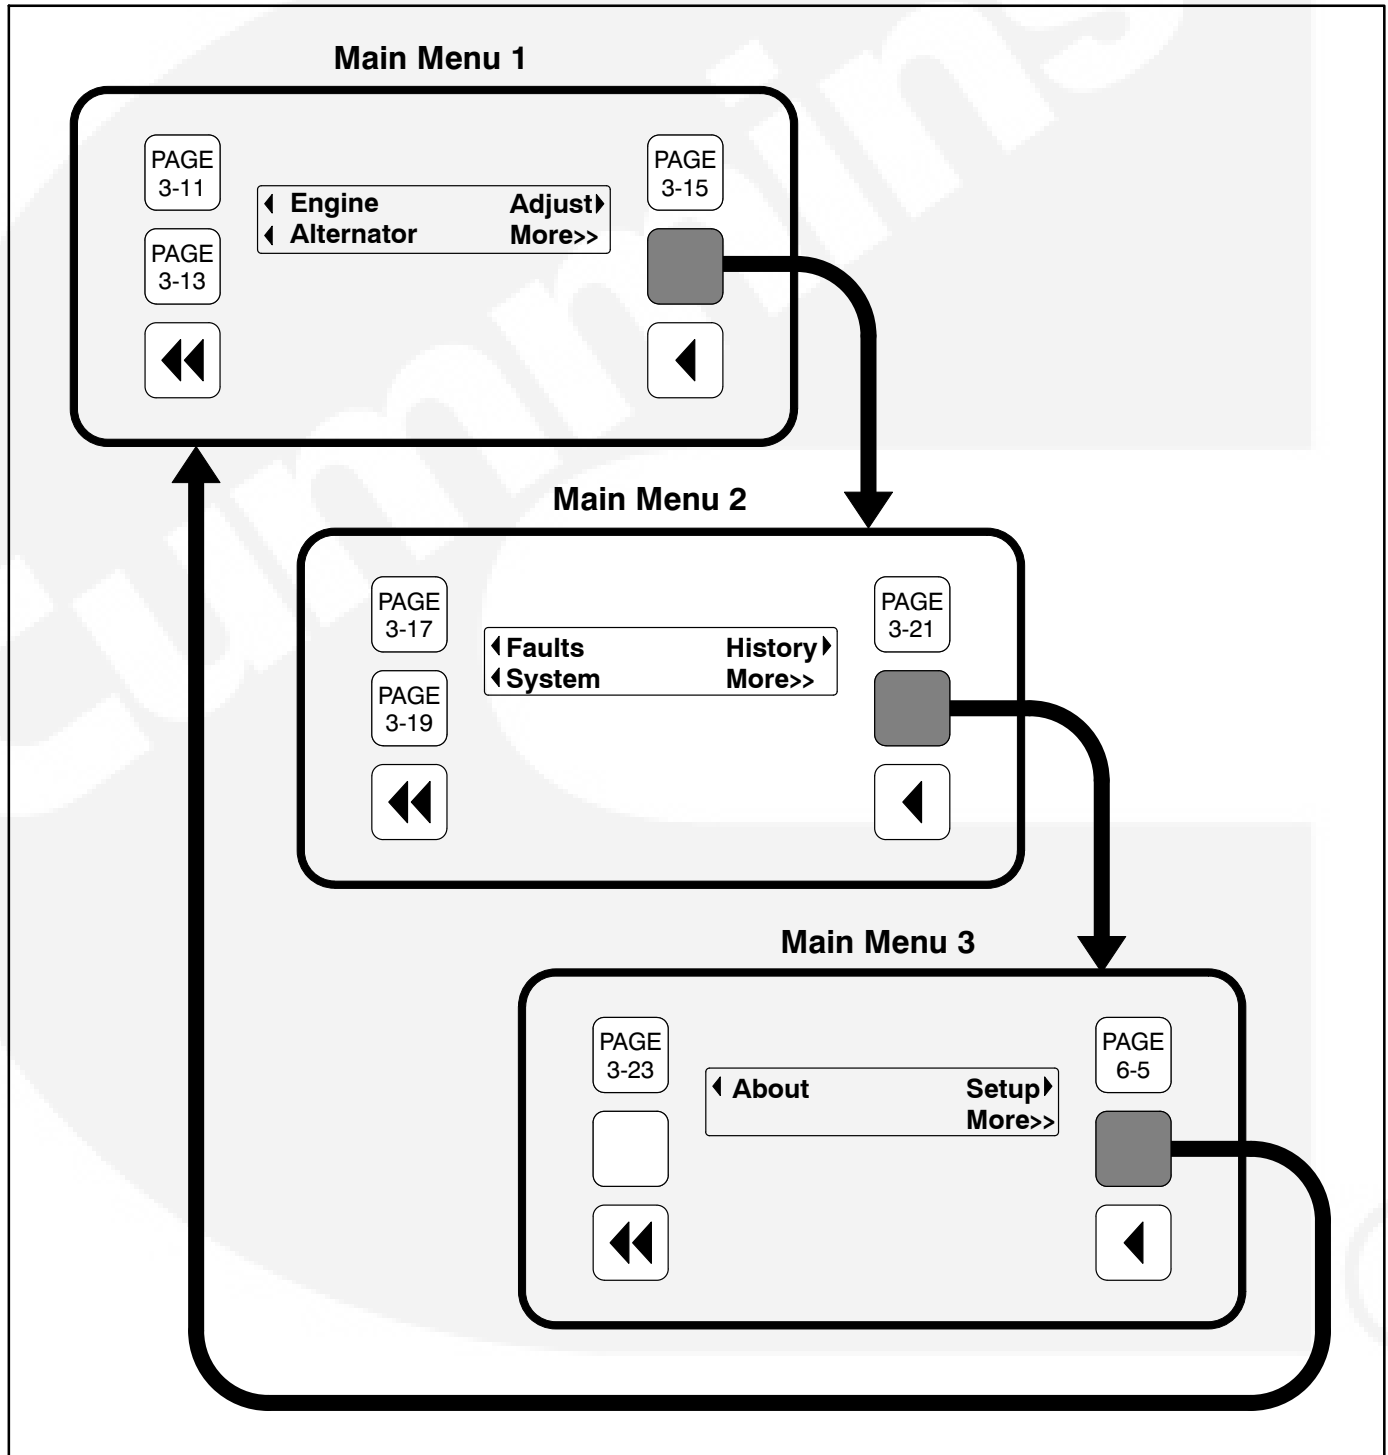
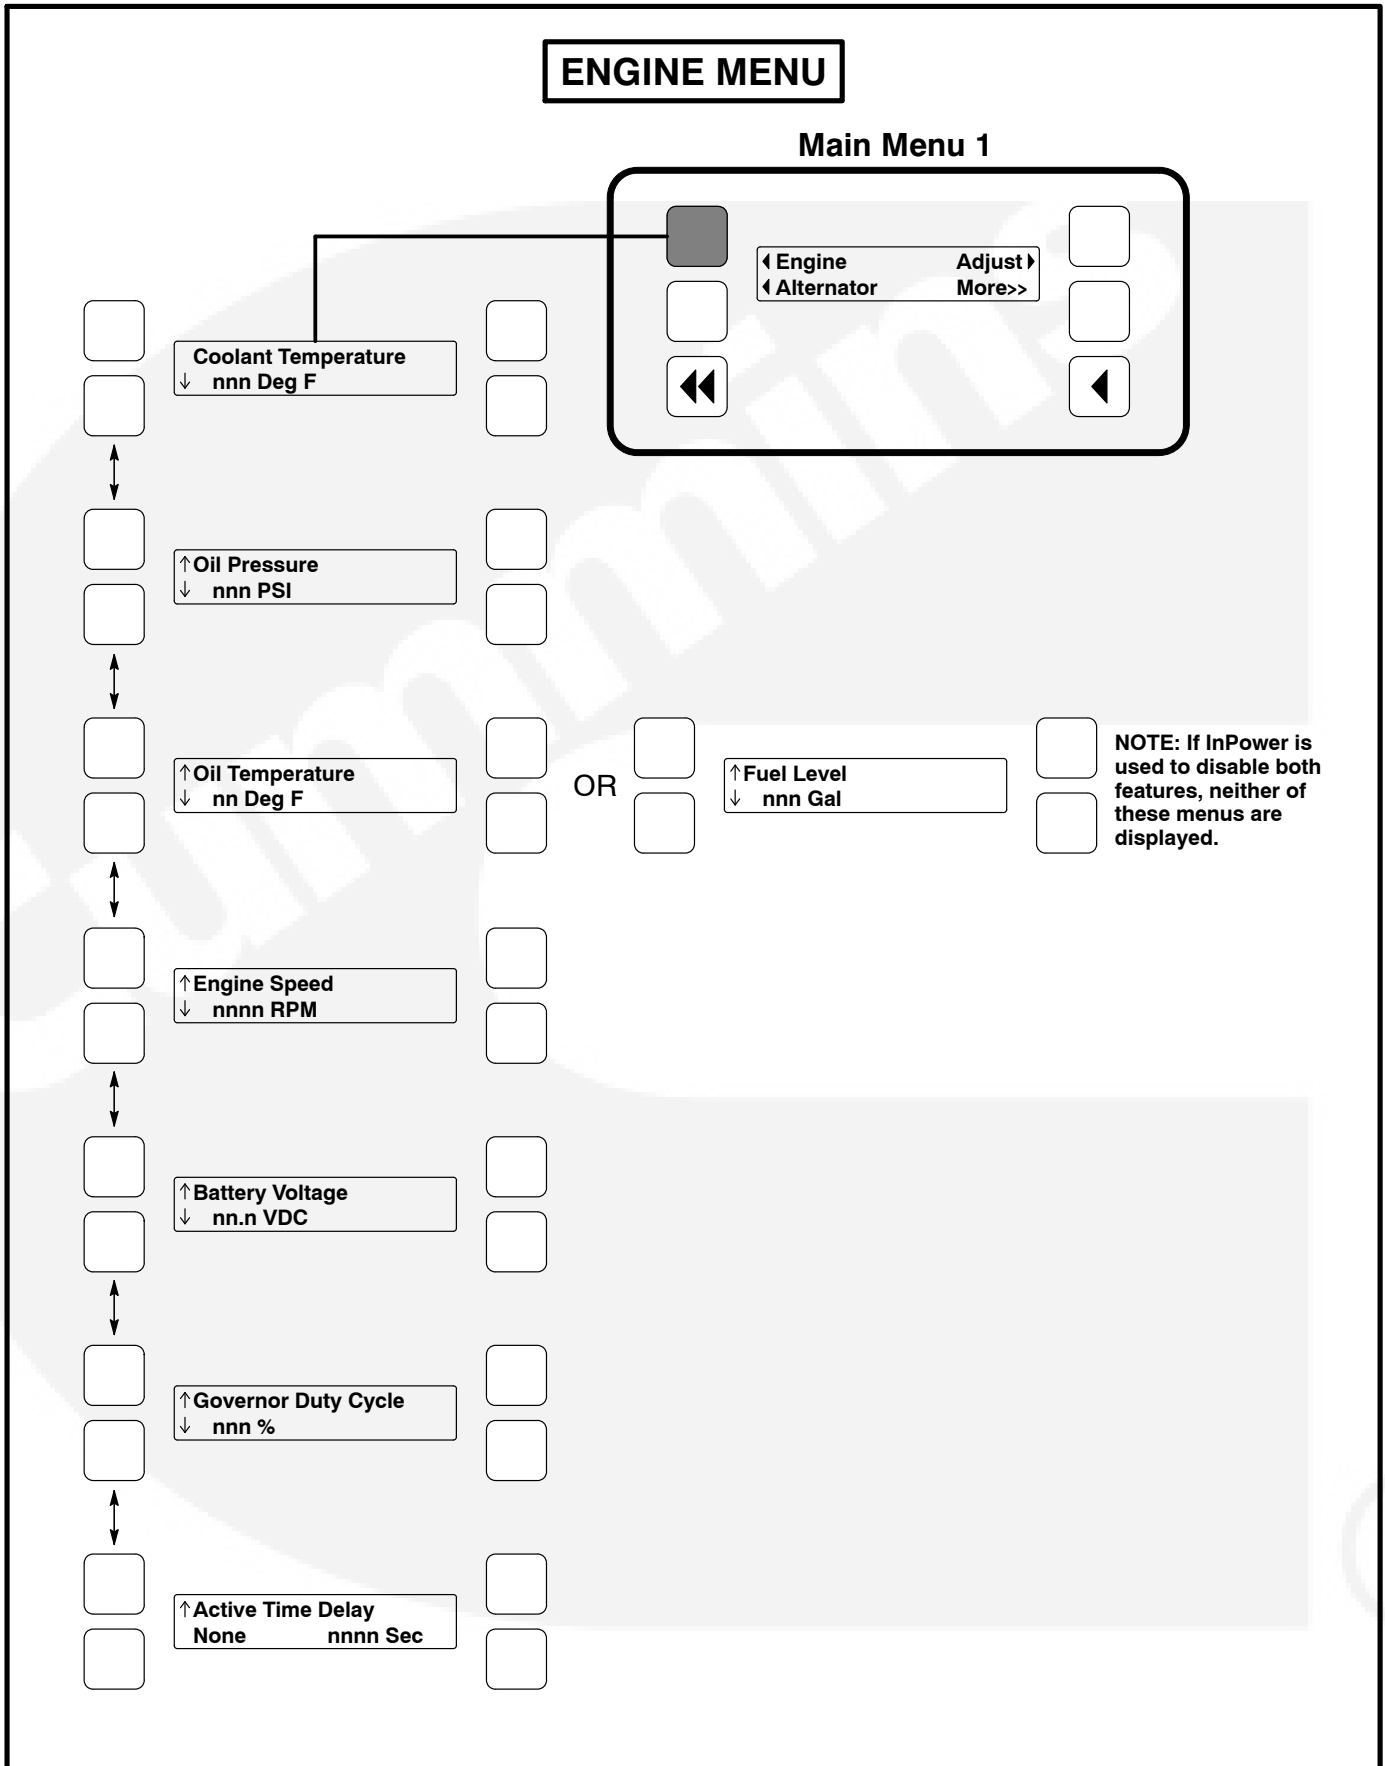

FIGURE 3-3. MAIN MENUS
FIGURE 3-5. ENGINE MENU
- In the digital display for main menus (Figure 3-3), the ◀ and ▶ symbols indicate that pressing the adjacent button causes the operating program to go to the selected submenu (e.g., Engine Menu in Figure 3-5).
- In the digital display, the More>> symbol indicates that pressing the adjacent button causes the operating program to go to the next main menu, as shown in Figure 3-3.
Figure 3-3 shows the three major main menus available to the user. Figure 3-3 also includes references to pages in this section where you can find additional information on submenus. When viewing a submenu, you can press the previous main menu button at any time to view its main menu.
Figure 3-5 shows a block representation of the Engine menu. If you press the button next to the word “Engine” in the display, the first Engine submenu is displayed.